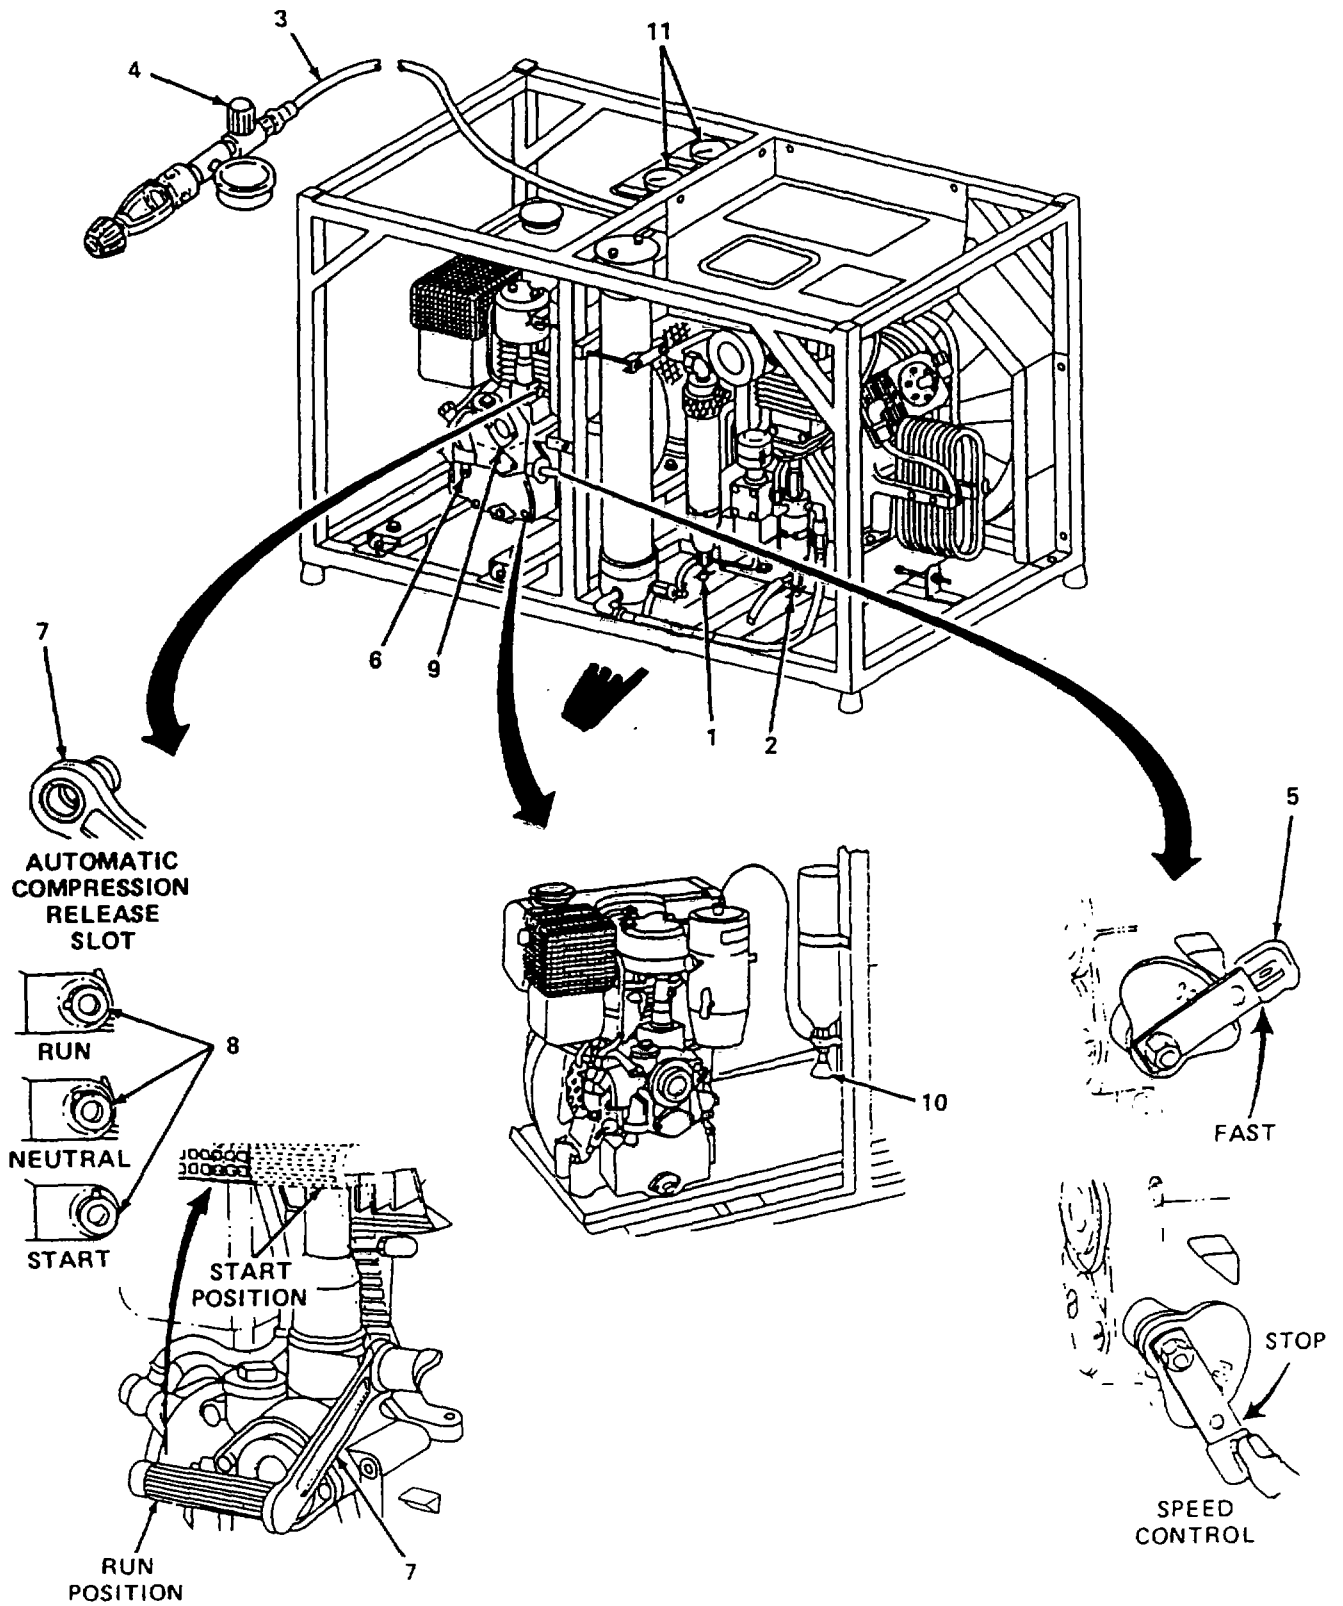
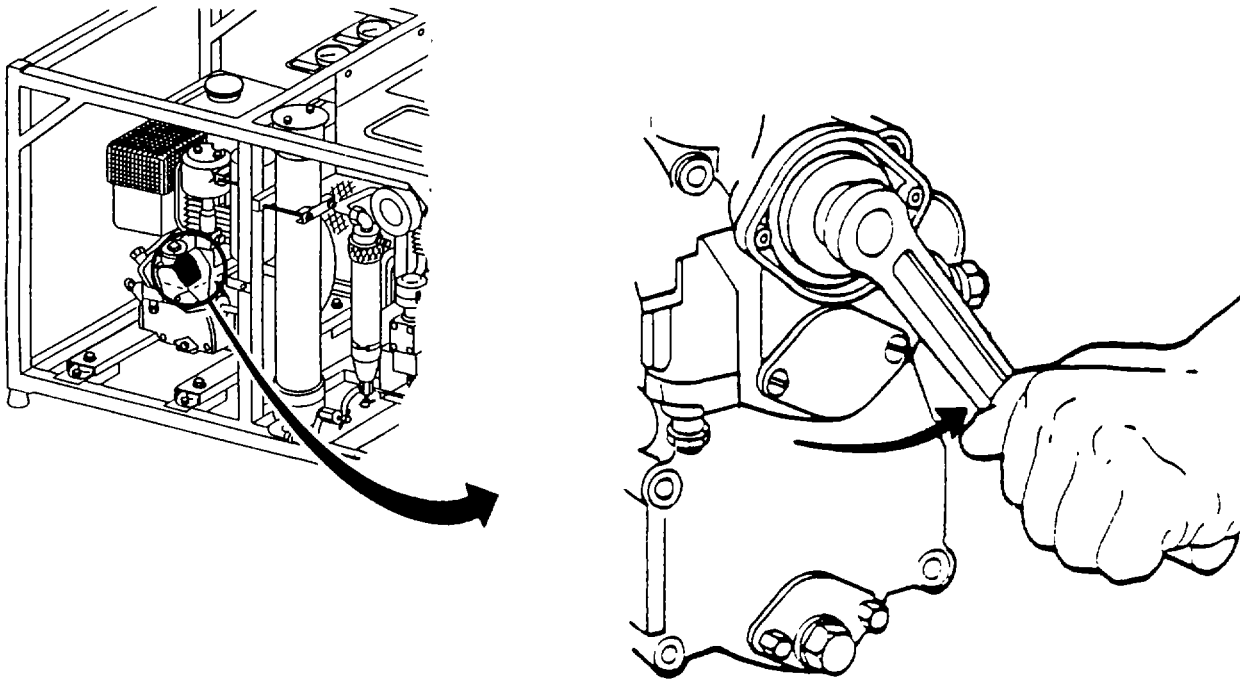

Figure 2-4. Starting Procedures
Figure 2-5. Hand Position.
b. Start Up. (figure 2-4)
- (1) Open separator drain valves (1) and (2).
- (2) Connect an air tank charging whip assembly (3) and close fill valve (4).
- (3) Move speed control lever (5) to FAST position.
- (4) Pull cold start primer (6).
- (5) Use hand crank (7) to rotate automatic compression release (8) clockwise two positions to the START position.
**Hand and thumb must be positioned as shown in figure 2-5 to prevent injury if kickback should occur.**
- (6) Insert hand crank (7) into starter crank guide (9). Rotate hand crank (7) slightly clockwise to engage. After engaging, rotate counterclockwise to start engine.
- (7) Rapidly crank engine. After about eight (8) revolutions of the crank, compression will be felt and the engine should start.